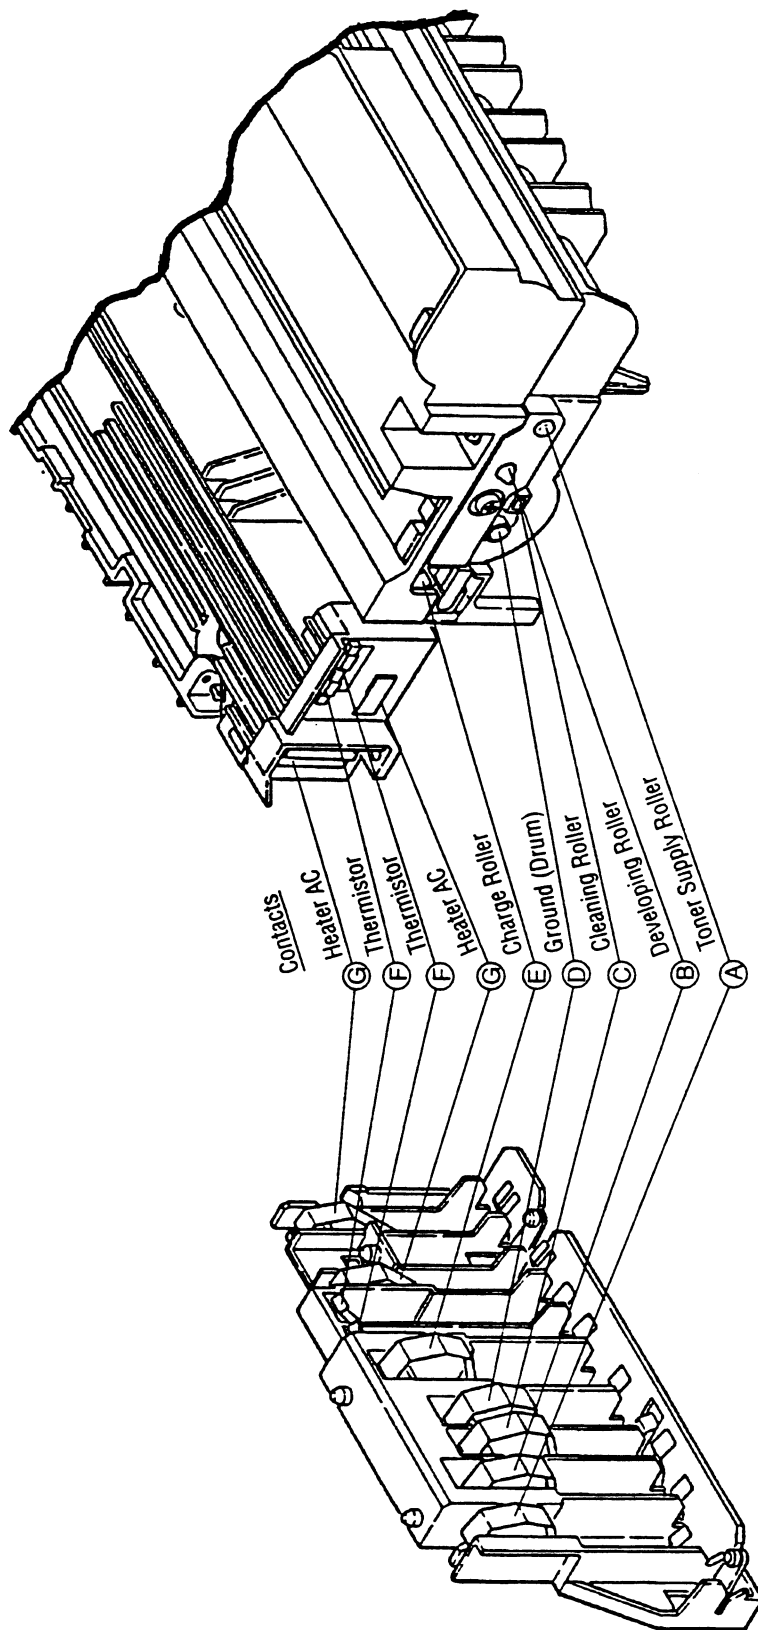

Figure 6-4
- Yes Are the contact of the developing roller and the contact of the toner supply roller of the image drum cartridge contacted with the contact assembly properly? (See Figure 6-4 (A) and (B).)
(See Figure 6-4 (A), (B), (C), (D), (E).)
(See Figure 6-4 ©.)